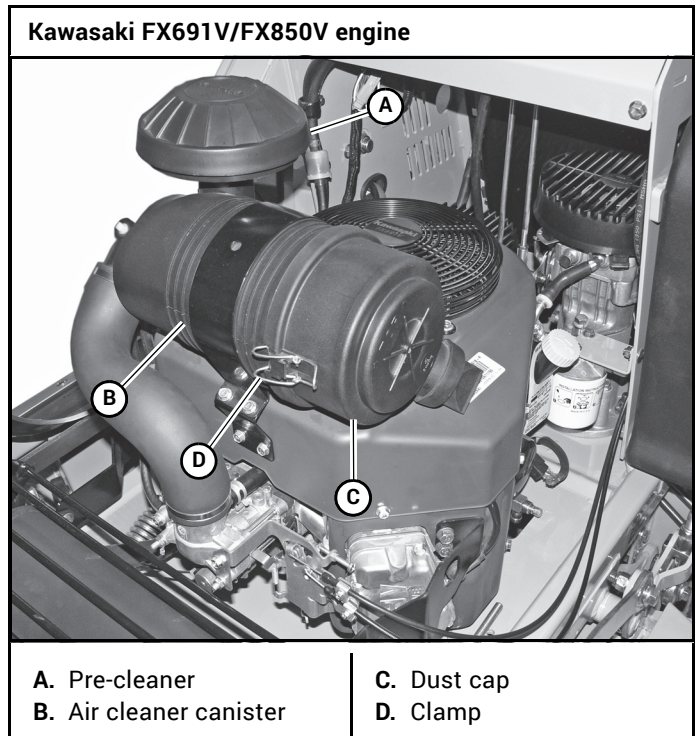

Figure 4-15
A specially designed dry filter is standard equipment on these mowers and supplies clean combustion air to the engine. Figure 4-15
- Reinstall the dust cap. Make sure it seals all the way around the air cleaner canister, then tighten the clamps. Figure 4-15